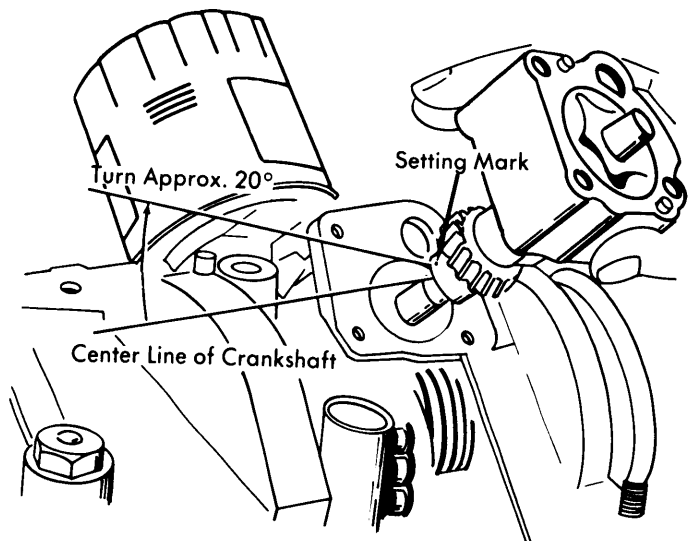

Fig. 9 Installing Oil Pump
2) Install driven rotor so that alignment mark aligns with mark on the drive rotor. Engage drive gear with pinion gear on crankshaft so alignment mark is turned rearward and is away from crankshaft by approximately 20° in clockwise rotation (See Fig. 9).